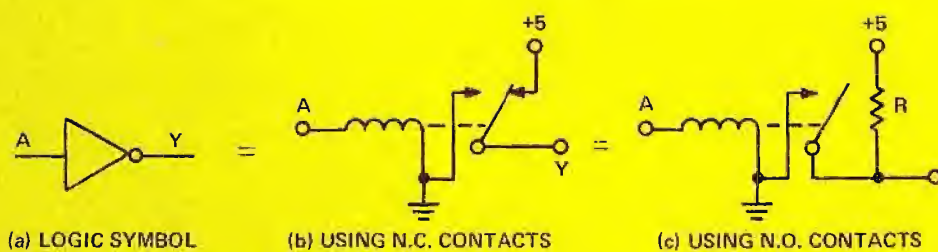

Figure 4. Simple Relay Implementations for an Inverter.
The relay equivalent of a logic inverter can be constructed with either normally-closed or normally-open contacts, as shown in Fig. 4. In either case, the application of a logic HIGH to the input terminal (A) will cause the output terminal (Y) to go from the HIGH to the LOW state. In the version using normally-open contacts, the resistor R must have a value small enough to pass the current required to operate the relay or other circuit element connected to the output terminal when the terminal is in the HIGH state, but large enough to limit the current drawn from the power sup-